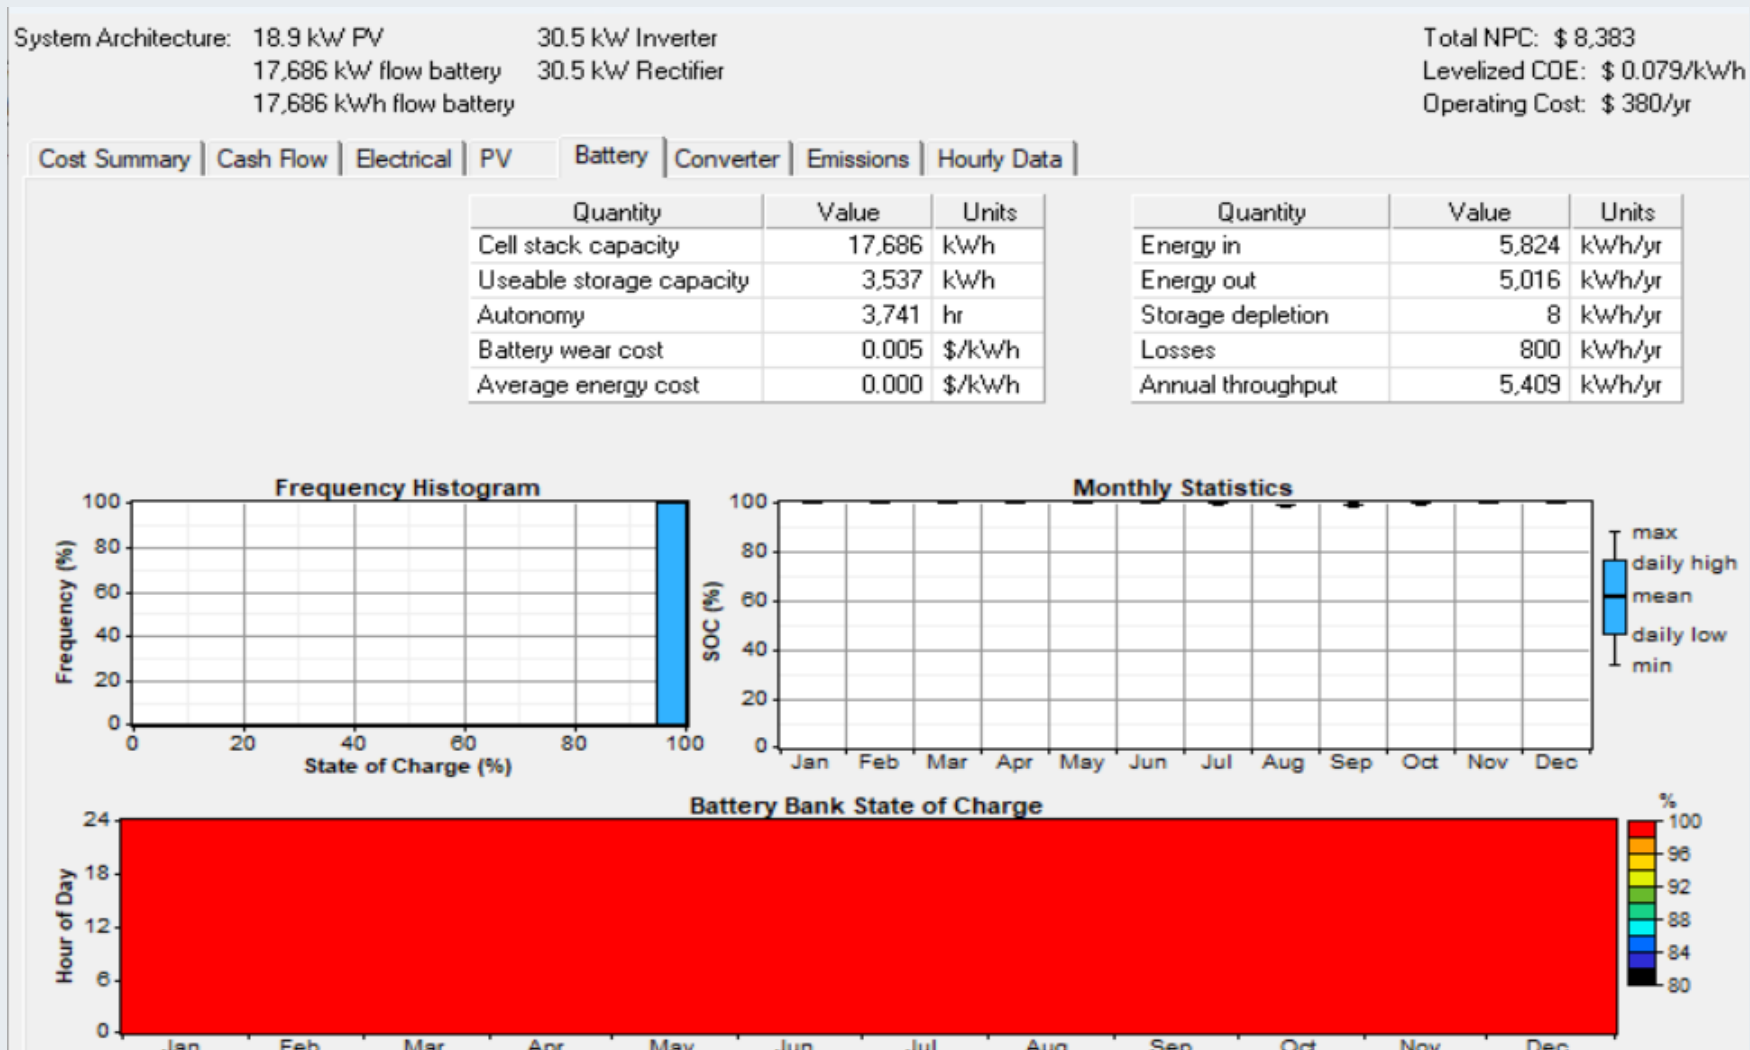

Figure 14. Battery status during operating condition
- The battery status during operating condition is presented in Fig.14